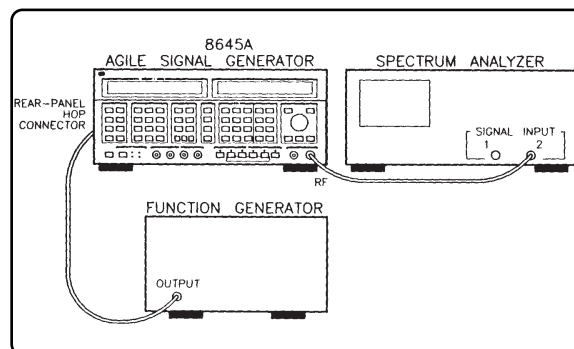

Figure 27. Equipment Setup for External Stepped Internal Dwell Procedure # 2.
16. **Connect the 8645A to the Spectrum Analyzer and Function Generator as shown in Figure 27.** Keep the Spectrum Analyzer set to the adjustments made in Procedure # 1. Turn on the Function Generator and make the following adjustments: